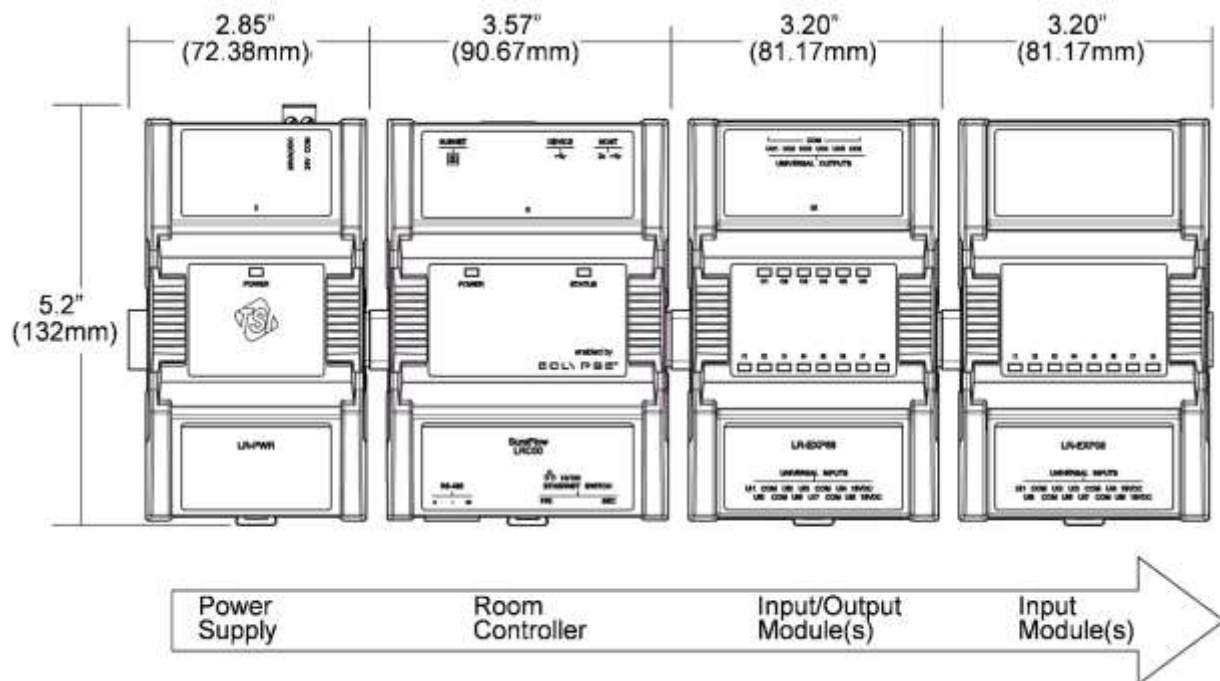

Figure 6: Assembly Order
3. Set the pieces in the correct mounting order (Figure 5) and position (Figure 6).